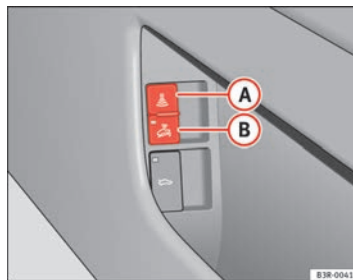

Fig. 79 Interior monitor switch
- Open the door and pull out the switch  (with the symbol ) to one side of the storage compartment, in the driver's door ⇒ fig. 79.
⇒ page 108, fig. 79.